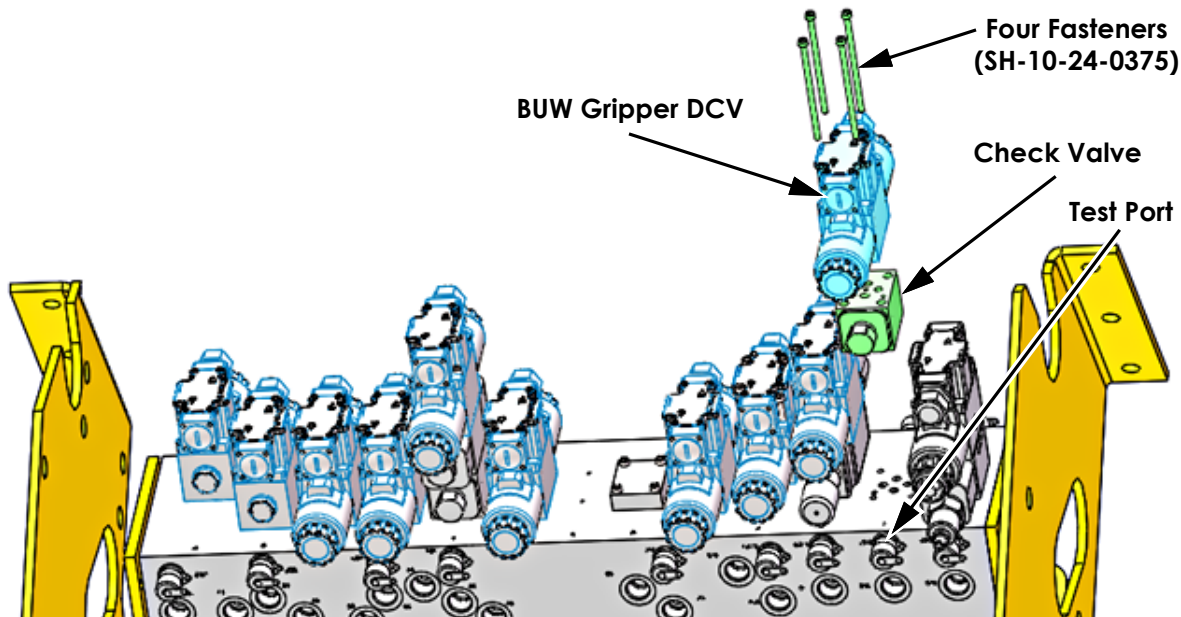

Figure 6: Installing check valve
3. Using the fasteners from the kit, install the check valve assembly (P/N: H07-1010-030) between the BUW gripper DCV and the hydraulic manifold as shown in Figure 6. Torque the fasteners to 6.5 ft-lbs using Loctite[®] 242.
Check valve knob must be oriented toward the hydraulic manifold test port as shown in Figure 6.